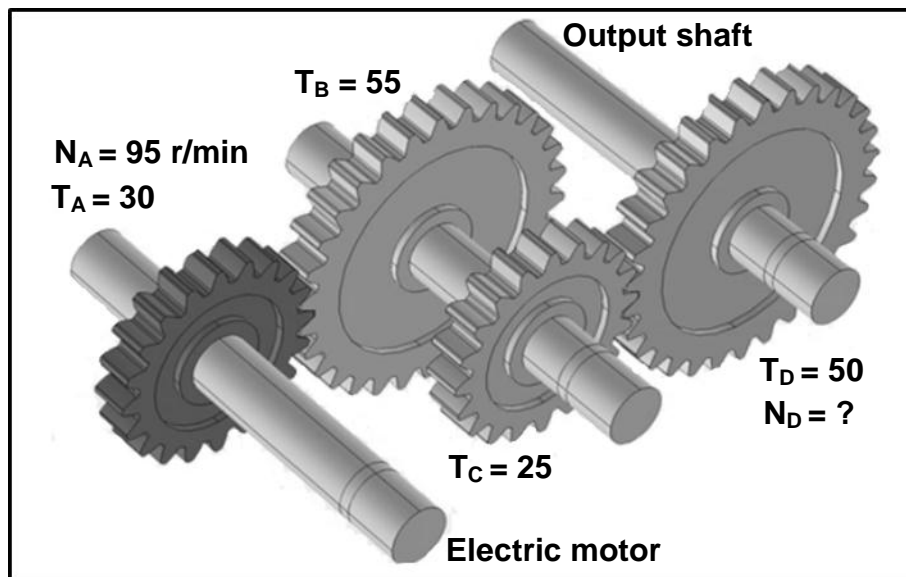

FIGURE 11.6
11.6 FIGURE 11.6 below shows a gear drive system on the shaft of an electric motor.